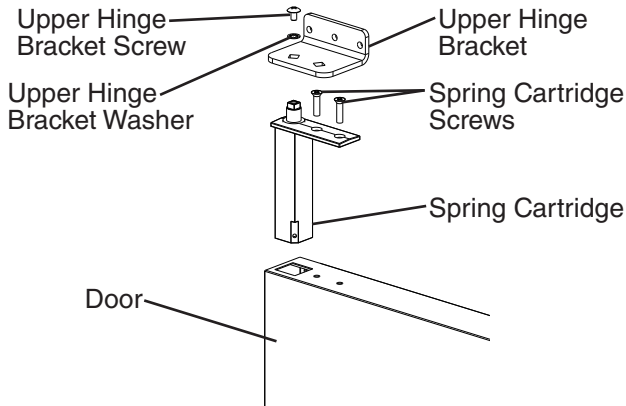
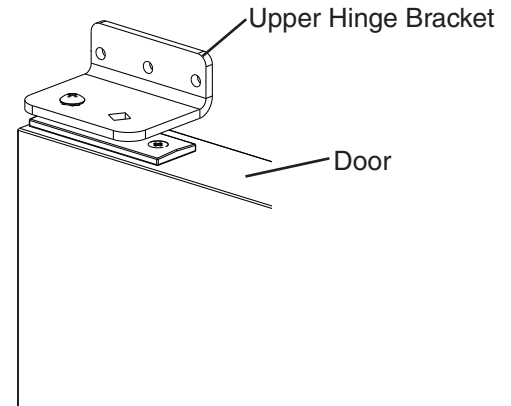

Fig. 22
Fig. 23
- 8) Clear foam from the spring cartridge hole to allow for spring cartridge installation. Install the spring cartridge and secure it to the door using the spring cartridge screws removed in step 6. See Fig. 22. Next, align the upper hinge bracket to the door in the orientation that allows for closed door installation. See Fig. 23. Secure the upper hinge bracket to the door using the screw and washer removed in step 6.